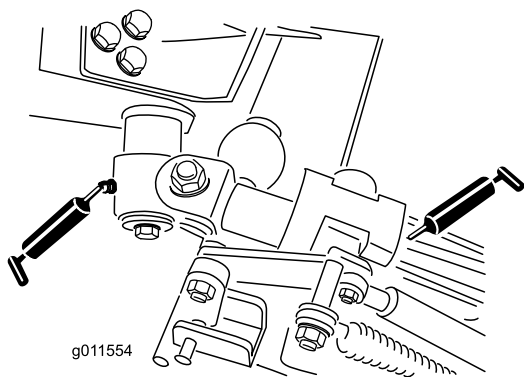

Figure 71
- 2 bell-crank-pivot bushings (Figure 71)
- 4 rear arm bushings (Figure 71)